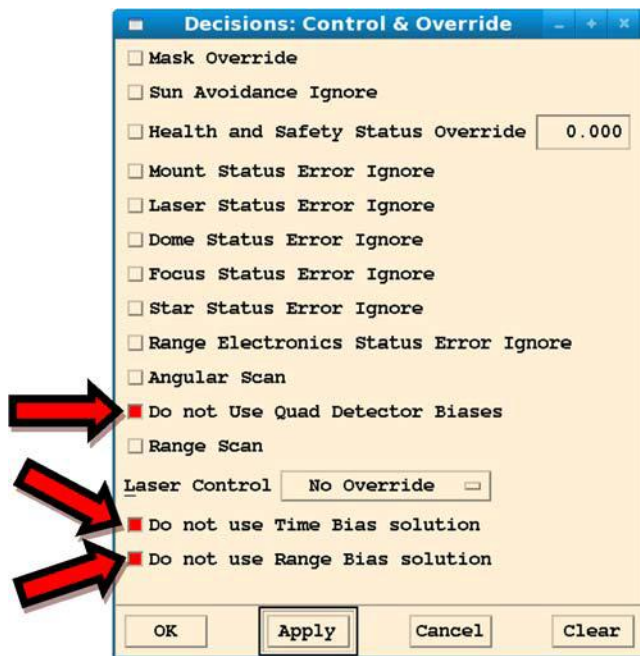

Figure 3-16: Decisions: Control & Override window
b. **Control => Decisions**; Select the following checkboxes (Figure 3-16).